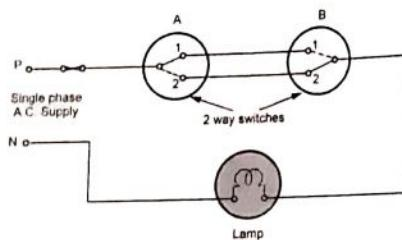
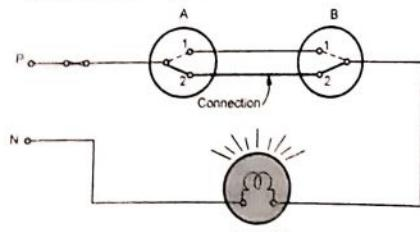

Fig. 6.4.3 Control of one from two points
Fig. 6.4.4 'ON' Position of lamp
- The circuit is shown in the Fig. 6.4.3.
- Assume that lamp is on first floor. Switch A is on first floor and B is on second floor. In the position shown in the Fig. 6.4.3, the lamp is OFF.
- When person changes position of switch A from (1) to (2) then lamp gets phase through switches A and B and it gets switched ON.
- This is shown in Fig. 6.4.4.